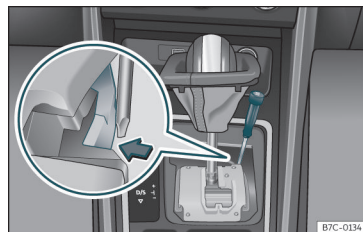

Fig. 145 Gear selector lever: manual release from the parking position.
- Using the flat part of a screwdriver, press the yellow tab sideways and keep it pressed down >>> **Fig. 145**.